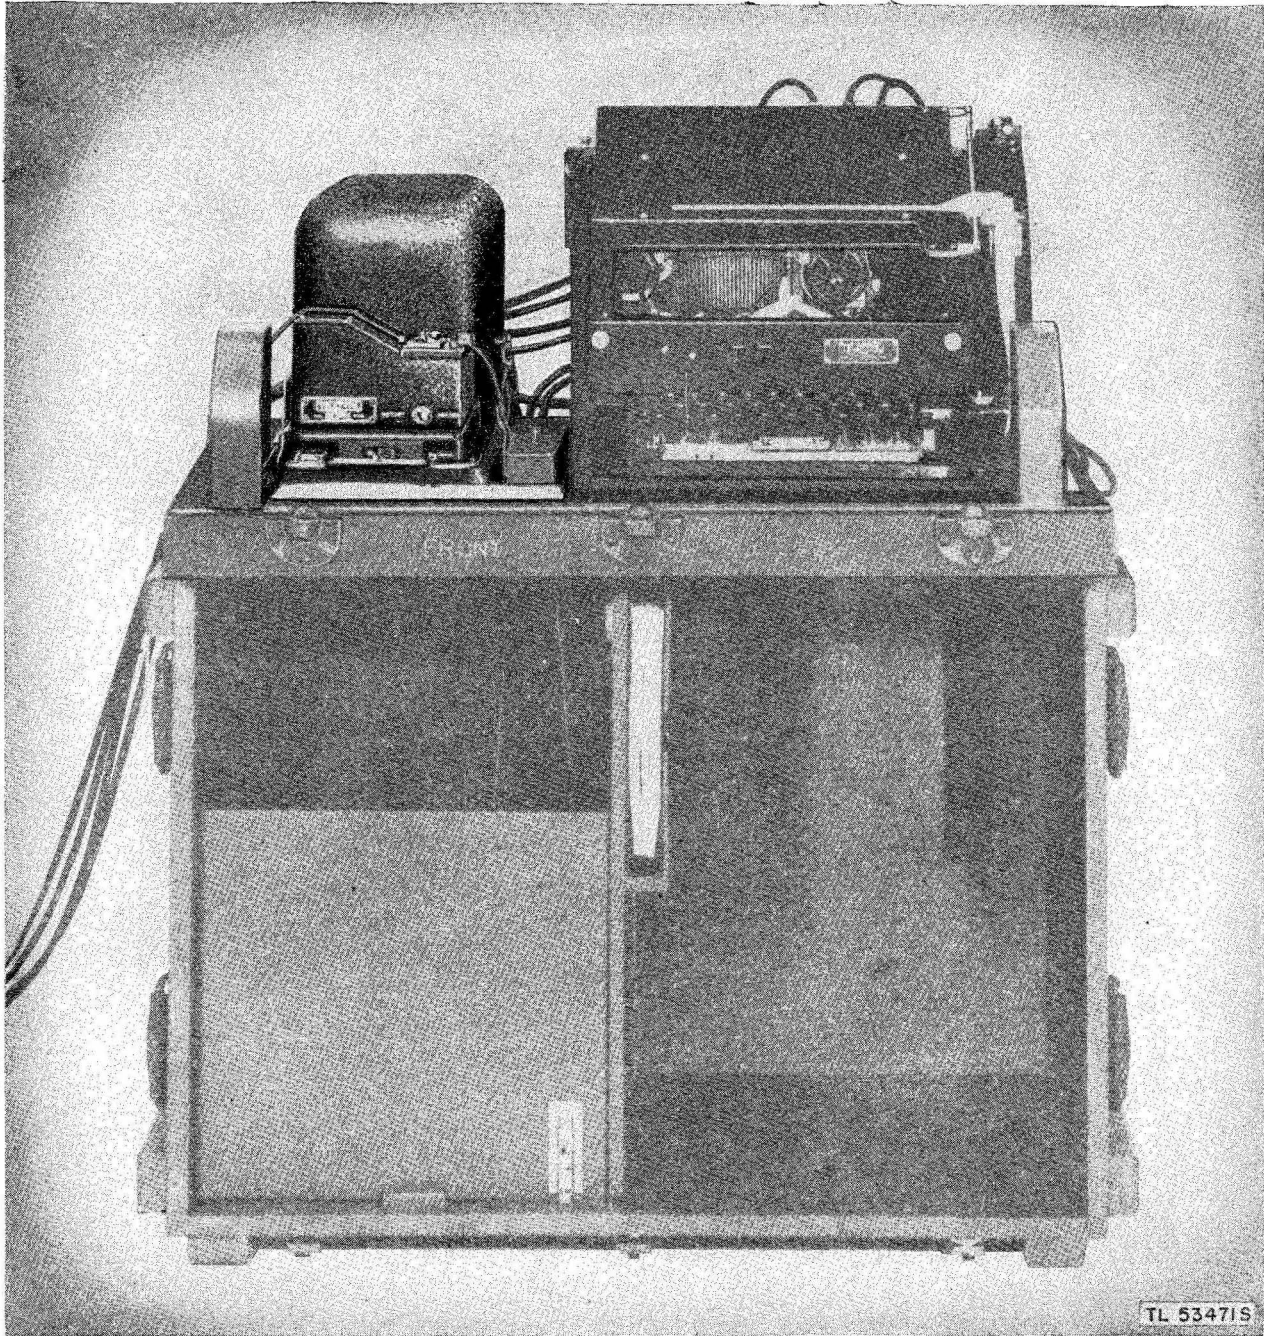

Figure 9. Model 14 transmitter distributor (XD82), used as part of Reperforator Transmitter TG-26-A, TG-26-B, or TG-27-A.
c. USE AS PART OF REPERFORATOR TRANSMITTERS TG-26-A, TG-26-B, OR TG-27-A (fig. 9). The XD82 type of transmitter distributor which is used as part of Reperforator Transmitter TG-26-A, TG-26-B, or TG-27-A provides a means of transmission necessary in